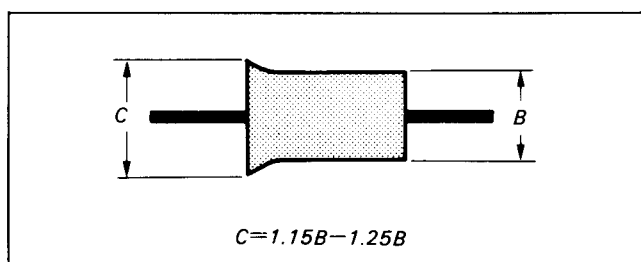

Fig. 8-76.
- 5) Turn No.2 guide so that the entrance side waveform flattens slightly. (Fig. 8-76)